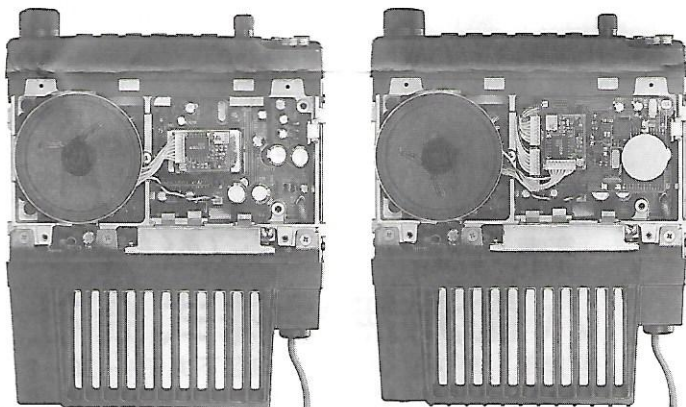

Figure 3
- ❑ Note in Figure 3 how the FTS-27 cable routes over the chassis compartmentation. Plug the FTS-27 cable into J1003. Then peel the covering from the exposed side of the tape, and press the FTS-27 onto it.